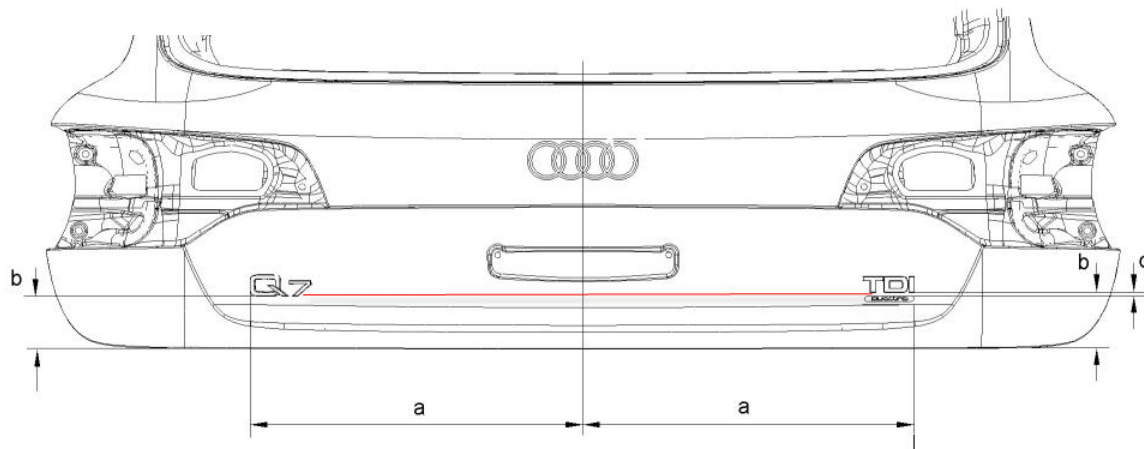

Figure 1. Alignment of “Q7” and “TDI” emblems.
1. The bottom edge of the “Q7” emblem and the bottom edge of the “TDI” emblem should be aligned with each other on the same horizontal line as indicated by the red line in Figure 1. The “quattro” emblem sits below this line.